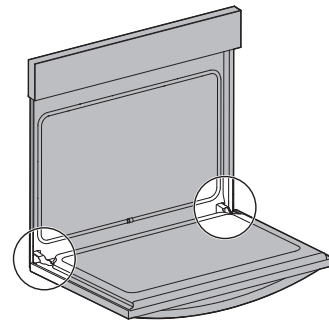

Figure 28: Door hinge location
1. Open oven door completely, horizontal with floor (Figure 28).
3. Fully open the oven door, horizontal with floor (Figure 28).